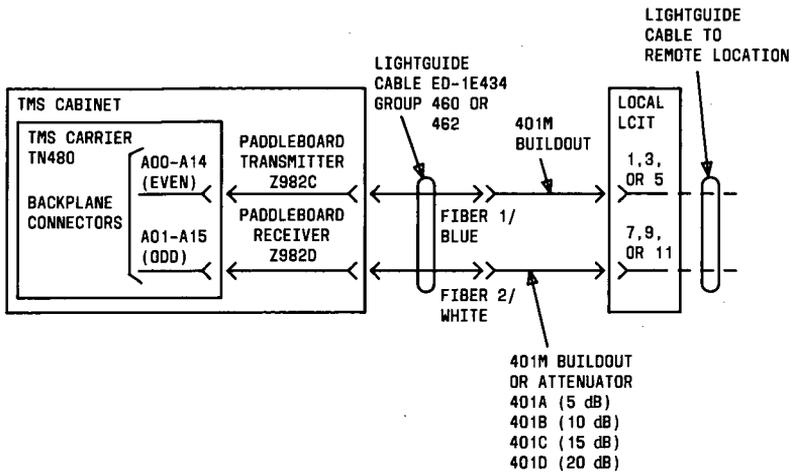

Figure 52. Central TMS Fiber-Link Connections for Unduplicated Module Control (Phases 1 and 2)
Install the TMS fiber link(s) for the central location from the TMS carrier(s) to the central LCIT. Figures 52 and 53 show the connections for an unduplicated and duplicated system.
Use the CSD to determine the connector pins that are used on TMS carriers(s) for the TMS fiber link to each remote module. If CSDs are unavailable, Table AB can be used to determine this information for an unduplicated system. Tables AC and AD can be used to determine this information for a duplicated system. Look up the module number of each remote module in the appropriate table, and use the corresponding TMS carrier and pin numbers to connect from the TMS backplane to the LCIT as shown in Figures 52 and 53. The number of a remote module is determined by the module that is in the system.
5. Connect the fiber-optic cables to the appropriate attenuator as shown in Figures 52 and 53.